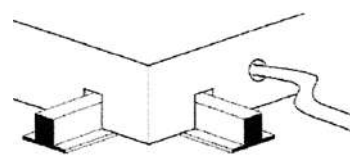

Fig. 4
- Pass the light wiring in the holes previously prepared and position the ceiling light (Fig. 4).